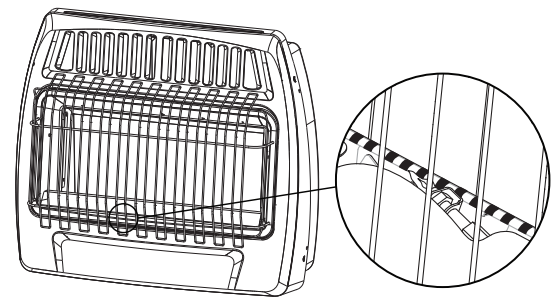

Fig. 24 - Pilot Flame Location
6. With control knob depressed, push down the ignitor "⚡" until the pilot lights. The pilot is visible centered below the main burner, behind the front grill. (See Fig. 24)
7. Keep control depressed for (30) seconds after pilot lights. Release control knob.
6. With control knob depressed, push down the ignitor until the pilot lights. The pilot is visible centered below the main burner, behind the front grill. (See Fig. 24)
7. Keep control knob depressed for (30) seconds after pilot lights. Release control knob.